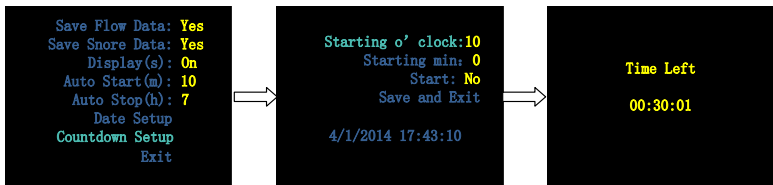

Figure 1-15 “Countdown Setup” interface
- Countdown Setup**, allowing users to set the device to start recording at a certain time according to their needs. The maximum countdown time is 14 hours. When the countdown reaches 0:00:00, the device will enter the Wearing Alert interface. If all leads are attached properly, the device will start recording automatically. Press and hold the **On-Off / OK** Button (ⓘ/✔) and the **Shift** Button (☺) until the user exits the “Time Left” interface, as shown in Figure 1-15.